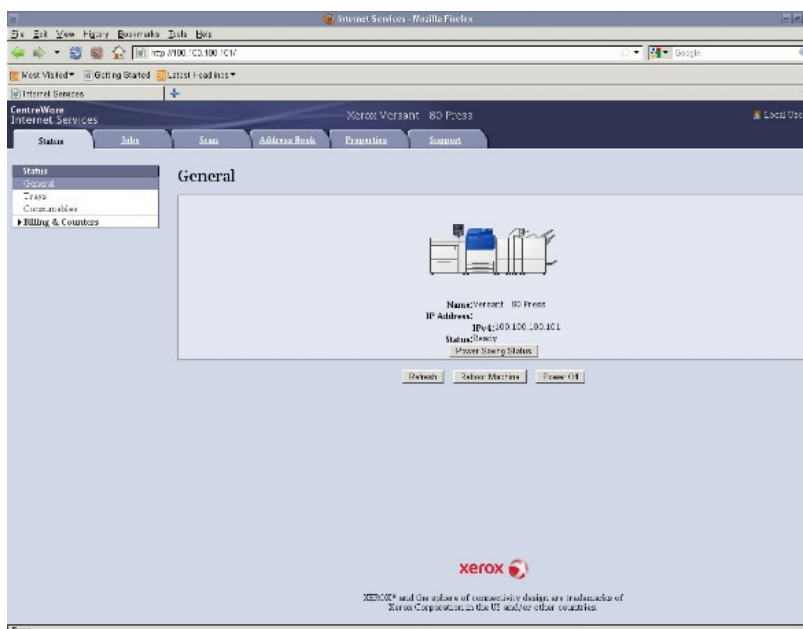

Figure 1
- a. If the system is using a Xerox® EX 80 Print Server, access the internal web page (Centerware®) by entering the IP address 100.100.100.101 into the Internet browser. The screen from Fig. 1 will appear.
- b. If system is using a Xerox® FreeFlow Print Server, access the internal web page (Centerware®) by entering the IP address 100.100.100.101 in the Firefox Internet browser. The screen from Fig. 1 will appear.
- c. If system is using a Xerox® 80 EX-i 80 Print Server, you need to access any Internet browser inside your firewall and type the IP address of the Fiery EX-I controller. Click on the Xerox CentreWare® link in the lower right corner of the Web tools page to access the machine internal web page (Centerware®). The screen from Figure 1 will appear.